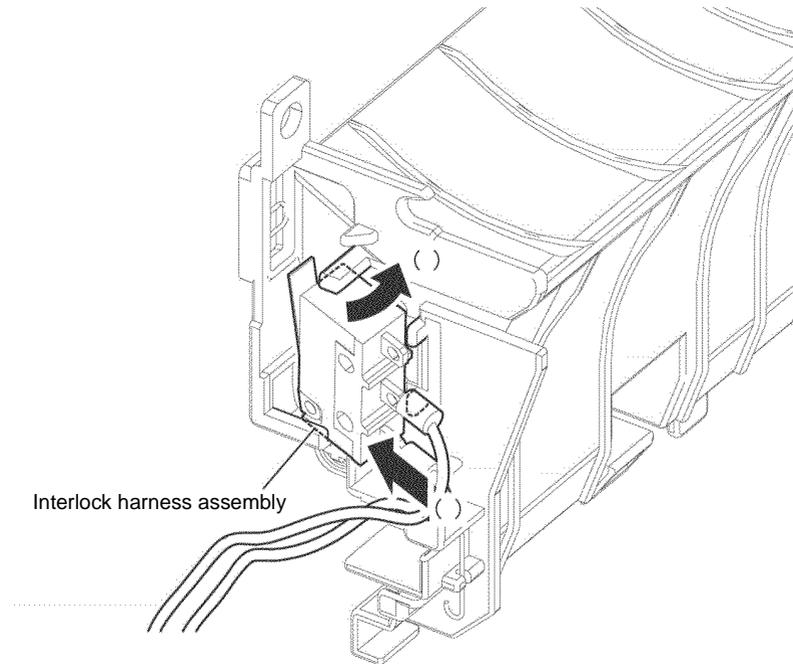

Figure 5 Interlock harness assembly installation
2. Install the interlock harness assembly to the rear interlock switch assembly as shown in Figure 5.